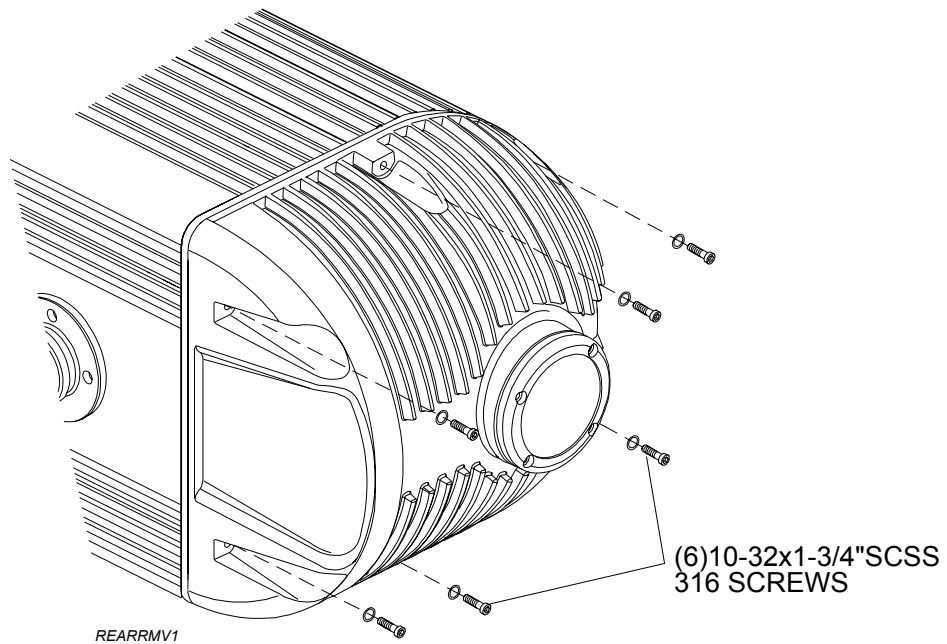

Figure 7.3 - Six Rear Head Assembly Screw Installation
5. At rear of head assembly, remove six 10-32x1-3/4" PPSS screws and replace with six 10-32x1-3/4" SCSS 316 Screws (Figure 7.3).